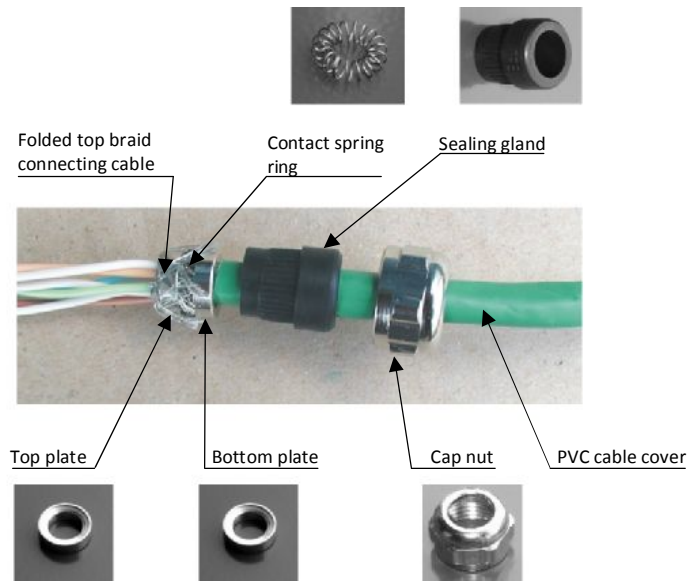

Figure 15 The grommet installation
- The twisted shield will be untwisted and released somewhat. Then it will be pulled over the washers on the cable and shortened at the bottom washer (figure 15). No wire of the shielding must go over the bottom washer, in order to tighten the sealing grommet by the pull-over nut well on the cable, and thus seal the grommet properly.